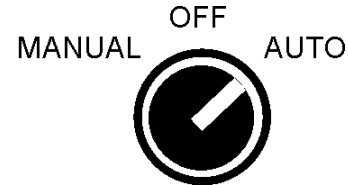

**Figure 23. Control Box Power ON Indicator**
3. Verify that the **ON** indicator (Figure 23) on the control box is LIT. This means that power is being supplied to the control box.